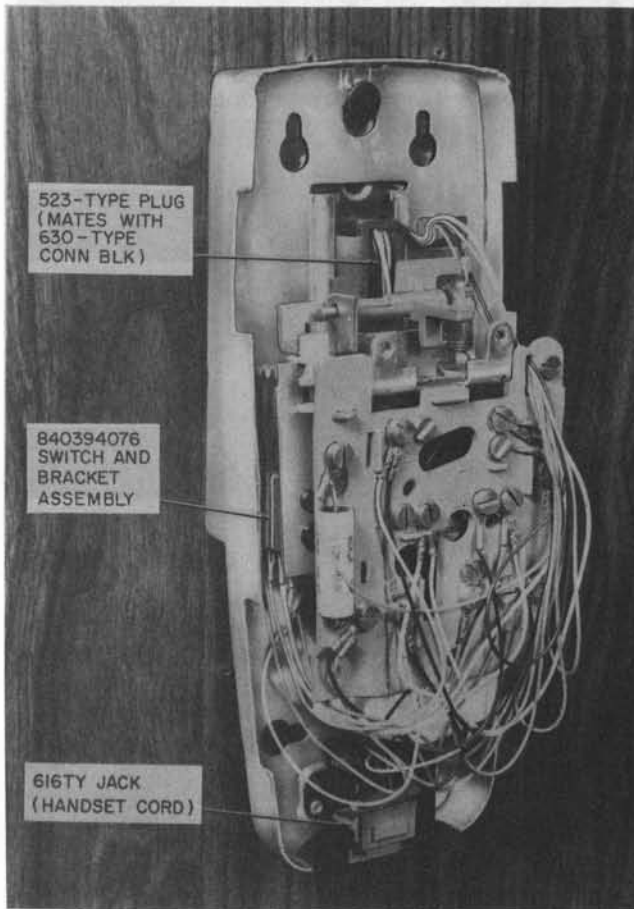

Fig. 11 — Interior View of AC-Type (Except AC2PH) Telephone Base
set cord. 523-type plug (Fig. 11) mates with 630-type connecting block
- AC2P and AC2MP (portable wall type)—jack equipped to receive (mini) plug-ended handset cord. 523-type plug (Fig. 11) mates with 630-type connecting block